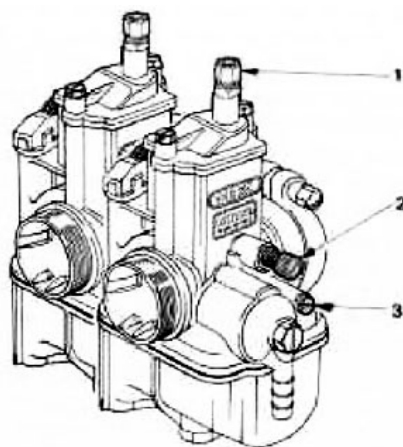
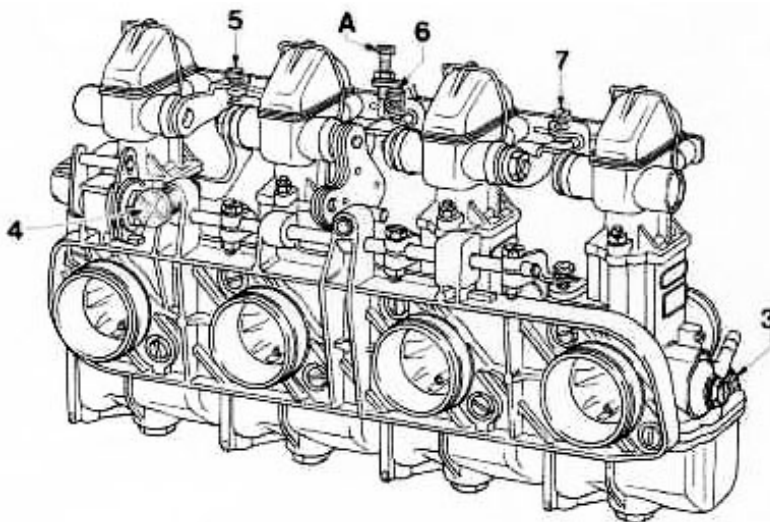

fig. 31
fig. 32
- with carburettors **separated** (**figure 31**) and the refore with a throttle cable each.
- with carburettors **mounted together** in a rigid group by means of a suitable flange (**figure 32**) and with a single control cable.
Make sure, both for independent (**figure 31**) and grouped carburetors (**figure 32**), that each throttle cable has about 1mm free play at idle.
- Unscrew each idle mixture screw (3) about two turns from the fully-closed position.
- Start the engine and when it has reached normal running temperature, adjust the idle speed to about 1000 rpm using the throttle adjusting screw (2) in **figure 31** or screw (4) in figure 32.
- Or independent carburettors (**figure 31**) align the mercury column levels using the throttle adjusting screws (2) on each carburettor.
- For carburettors mounted together in a group (**figure 32**) align the mercury column levels with the level of the carburettor connected directly to the throttle control, adjusting the balance- adjusting screws (5), (6), (7).
- Then adjust the mixture screws (3) of each carburettor to obtain the fastest even running.
- Recheck the alignment of the mercury columns and then reset the engine to the desired idle speed using the throttle adjusting screw (2) in figure 31 or screw (4) in figure 32.
- For independent carburettors (**figure 31**) check that the alignment of the mercury columns is unaffected by slightly opening the throttle. If it is, adjust the individual cable-adjuster screws (1) to correct this.